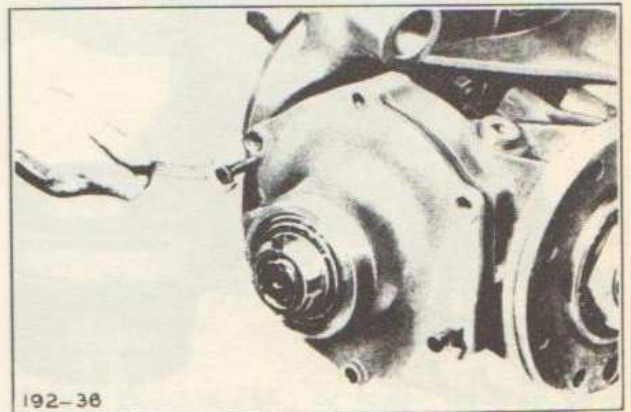

Fig. 29—Removing Retainer and Gear
Turn off cover (18) with suitable wrench. Remove capscrews (15), insert puller screws into tapped holes in retainer (16), and remove retainer and gear assembly carefully by applying pressure evenly to screws. (See Figure 29). Wire shims (17) together.